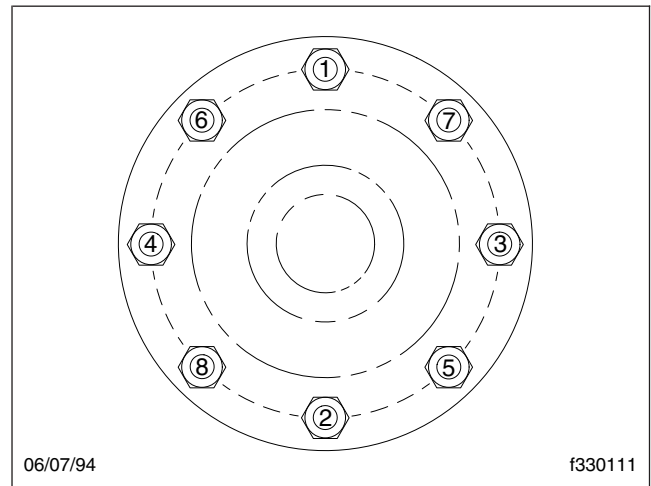

Fig. 5, Tightening Sequence, Drive Axle Stud Nuts
- 8. If equipped, install the dowels and washers on the drive axle studs. Install the drive axle stud nuts. Using the sequence shown in Fig. 5, tighten the nuts 150 to 170 lbf-ft (203 to 230 N·m).